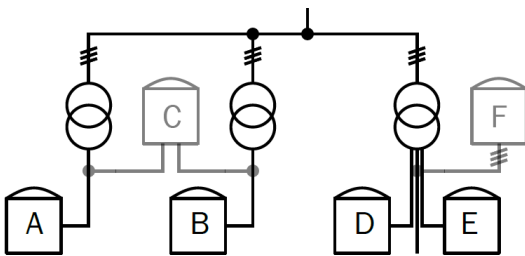

Figure 18. In this Example Grid, Modems A, B, D and E will have Difficulty Communicating Directly
Thus, communication across phases will often be impossible. In Figure 18, modems D and E will not see each other unless the three-phase modem F is configured as a repeater. Note that even in the same room, wall sockets are not necessarily connected to the same phase.
Even when modems are on the same phase, transformers cause problems: in Figure 18, modem A and B may not be able to communicate even though they are on the same phase. Adding a two-phase repeater (C) might solve the issue.